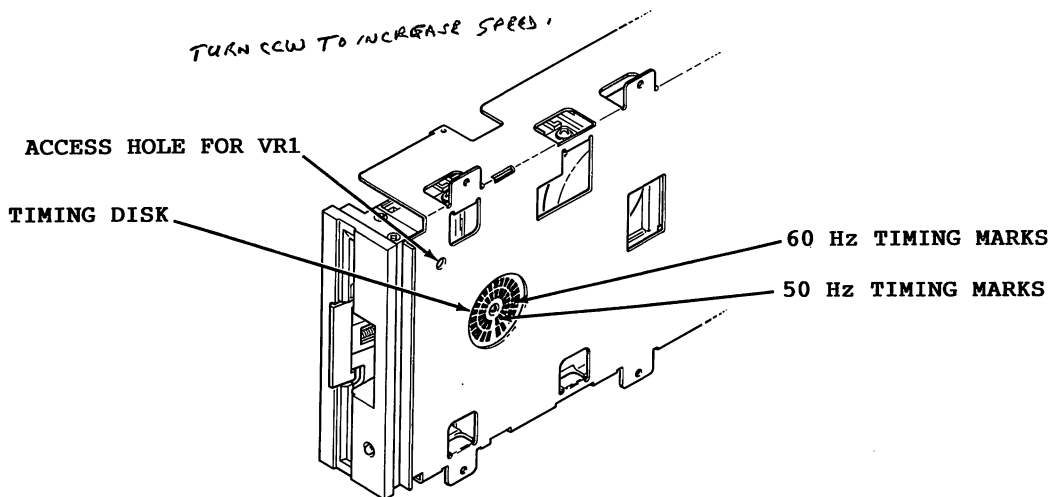

Figure 2-1. VIC-1541 Prepared for Calibration
6. Place disk drive on left-hand side. Use a thin book or magazine to prop up drive. (Refer to Figure 2-1).
8. Plug timing strobe light into AC outlet. Position light near timing disk (Refer to Figure 2-1).
10. Adjust VR1 (Refer to Figure 2-1) until timing disk appears to stop.